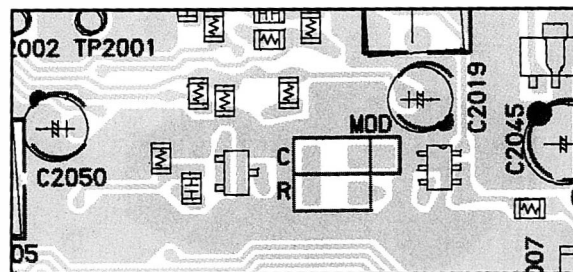

Fig. 3 TX Audio Component Location
- Next locate the set of pads labeled **MOD (C & R)**, above connector J2008 (fig. 3). Solder a 10-k Ω chip resistor across pad **R**, and a 0- Ω chip resistor* across pad **C**, and a wire lead to the adjacent pad. Pre-emphasized audio is fed to the transmitter here.